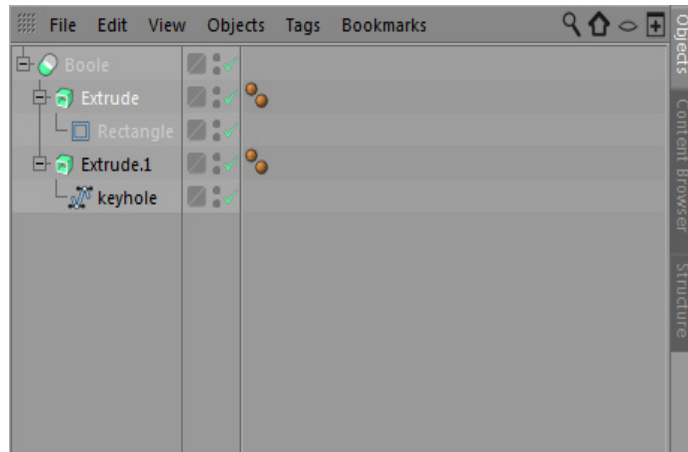
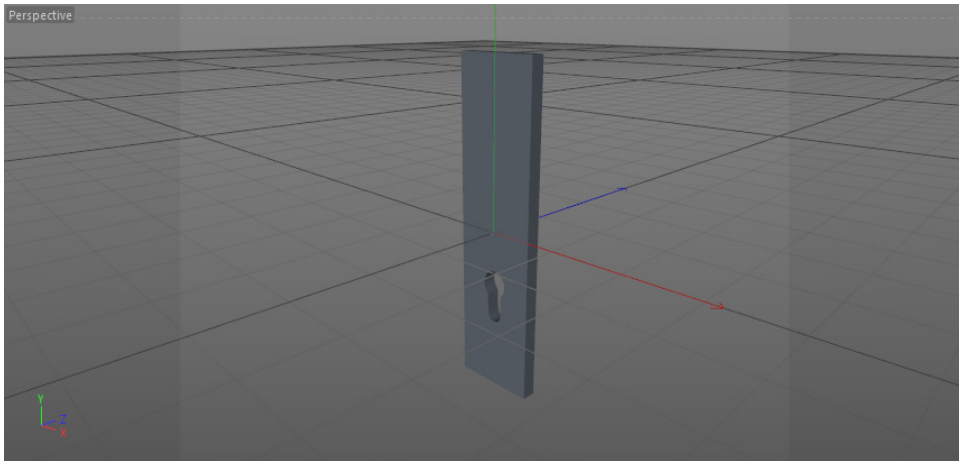

Figure 2-17 Extrude connected to Boole
Figure 2-18 The hole created in the Perspective viewport
9. In the Object Manager, select *Extrude* and press and hold the left mouse button; the shape of the cursor is changed. Next, drag *Extrude* to *Boole*; *Extrude* is connected to *Boole*, as shown in Figure 2-17. Also, *keyhole* is subtracted from *Extrude* and a hole is created in the Perspective viewport, as shown in Figure 2-18.